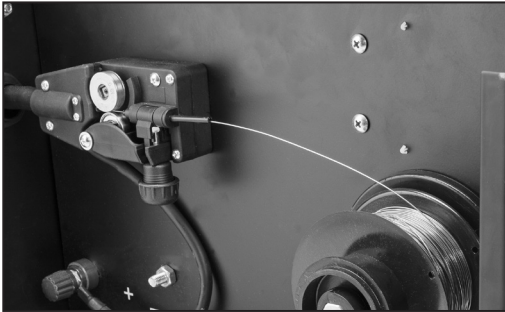

FIG. 6
8.3 WIRE SPEED ADJUSTMENT – FIG. 6